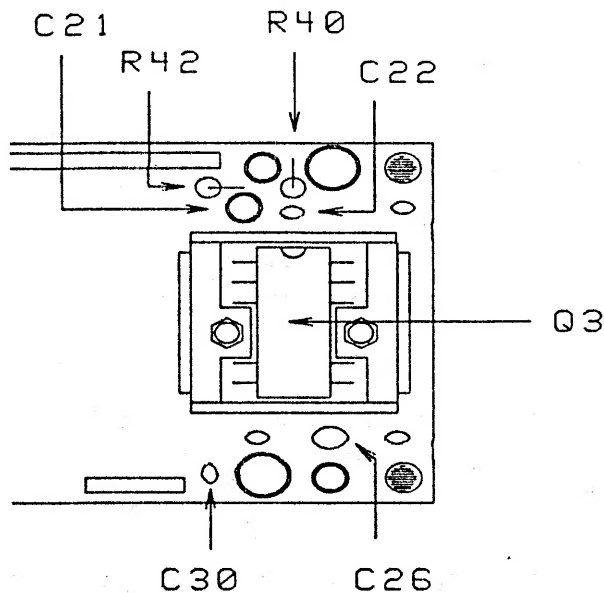

FIGURE 1
4. Remove the two nuts that secure the heat sink to the audio amplifier (Q3) and then remove the heat sink. FIGURE 1
5. Desolder and remove Q3, C21, C22, C26, C33, R40, R42, and R47 from the AF AVR board. C33 and R47 are mounted on the foil side of the board, but may not be installed on some models. FIGURE 1 & 2
6. Using the parts from the kit, install a 22uF capacitor in the C21 position, a 0.068uF capacitor (labeled 683K) in the C22 position, a 3.9 ohm resistor in the R40 position, and a 470 ohm resistor in the R42 position. FIGURE 1
7. Solder a 0.1uF capacitor (labeled 104K) in parallel with C30. Mount the part on the foil side of the AF AVR board. FIGURE 1